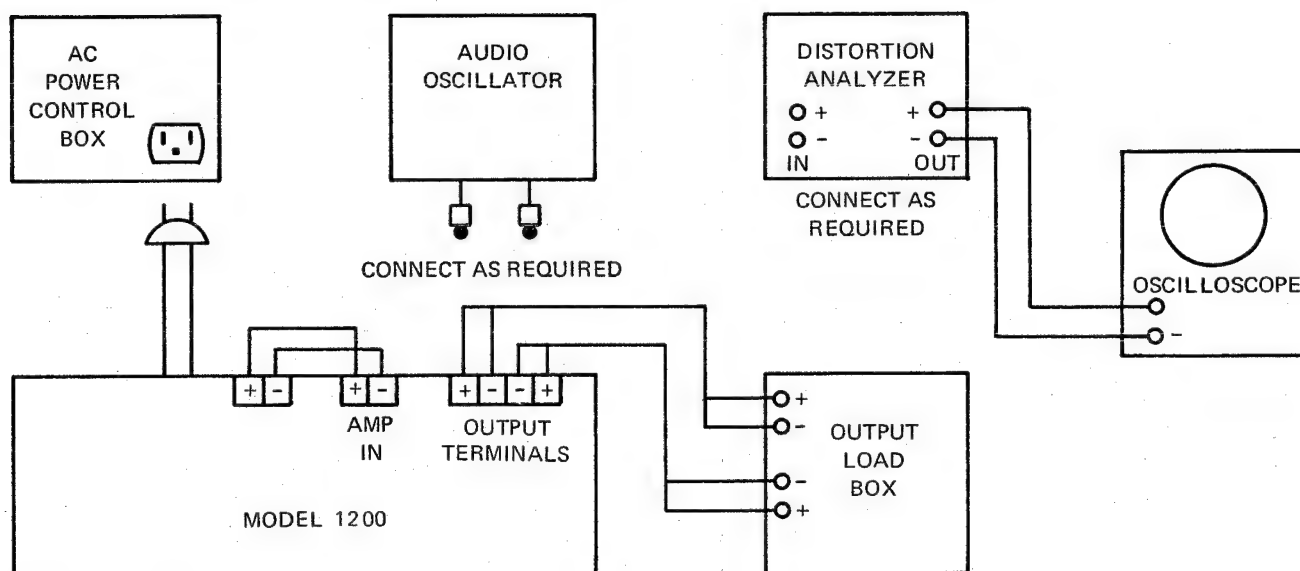

Figure 12. Test Equipment Set-Up
12. Output should follow curve shown in figure 12 (± 2 dB) as indicated on distortion analyzer.